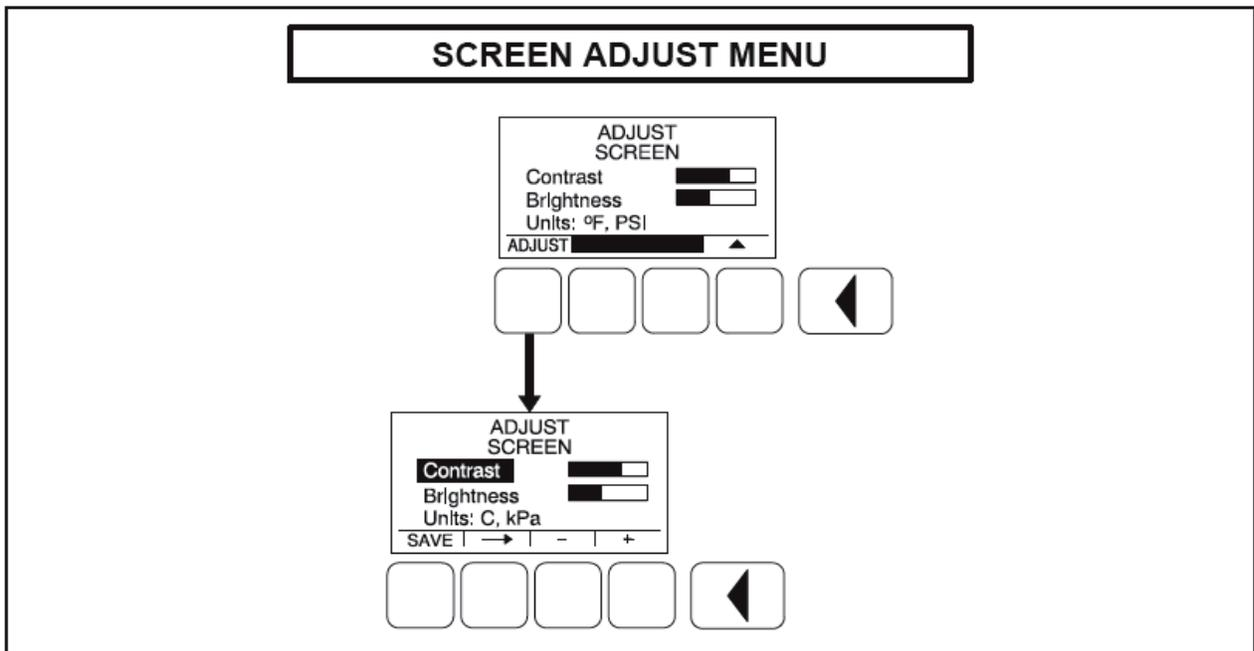

FIGURE 2-16. SCREEN ADJUST MENU
Figure 2-16 shows a block representation of the Screen Adjust menu. The Screen Adjust sub menu is displayed when the (3) button is pressed in the first Service Menu.